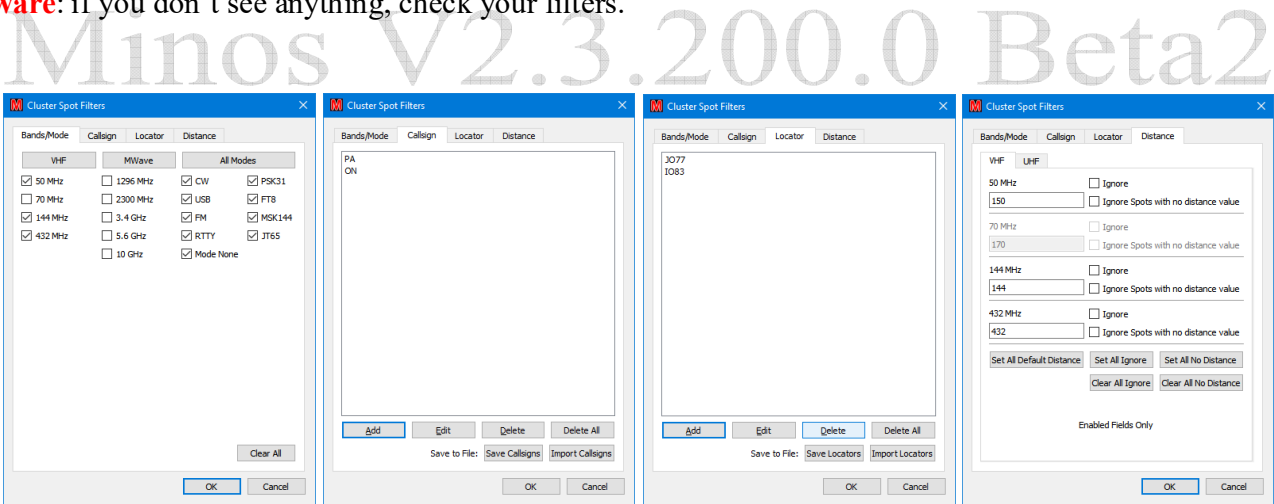

Figure 118 – Setting up filters
The content of the display can be controlled by clicking the “**Filters**” button and adjusting the Band/Mode of interest or the callsigns/locators to be watched¹²² and the distance constraints (see Figure 118).
The Distance filters further restrict the spots displayed on the basis of the specified ranges. Note in Figure 118 (4) that the 70MHz box is disabled because 70MHz is not selected in in Figure 118 (1).